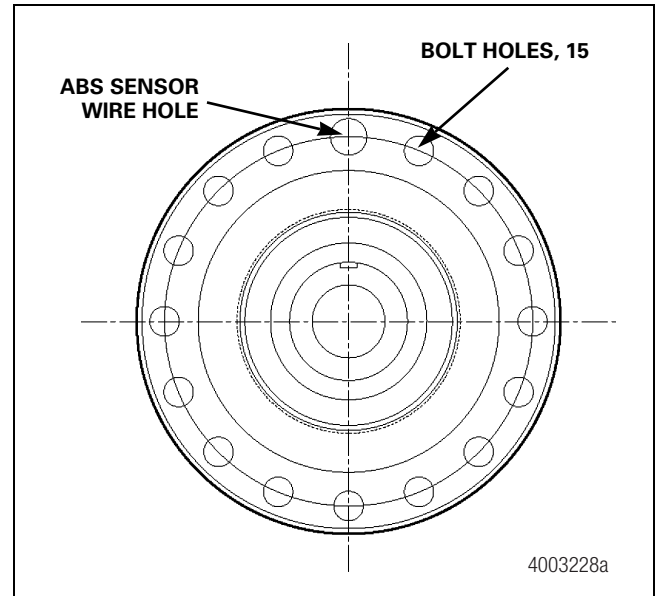

Figure 6.26
- **For a 16-hole flange:** Fasten the brake by installing the correct 5/8-inch (15.875 mm) diameter fasteners through the 15 0.656-inch (17 mm) holes. Tighten the fasteners to 180-230 lb-ft (244-312 N•m). Figure 6.26.